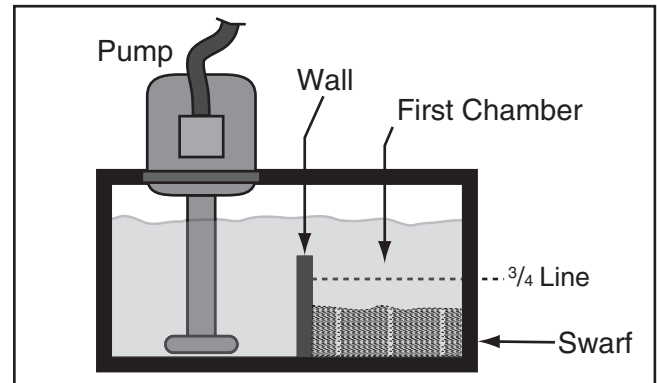

Figure 80. Diagram of coolant tank.
4. Using a flashlight, inspect the level of swarf inside the first chamber of the coolant tank. If the swarf level is beyond $\frac{3}{4}$ the height of the wall, then the tank must be cleaned (see **Figure 80**).